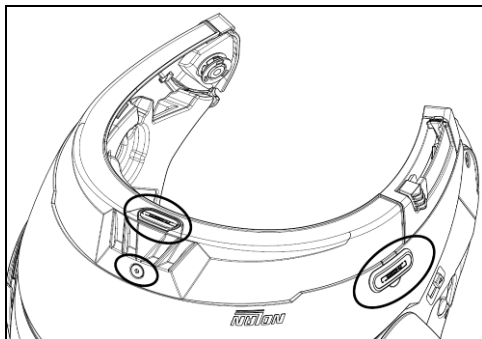

Fig. 1
- Remove the helmet edge gasket using the special tool (Fig. 1).